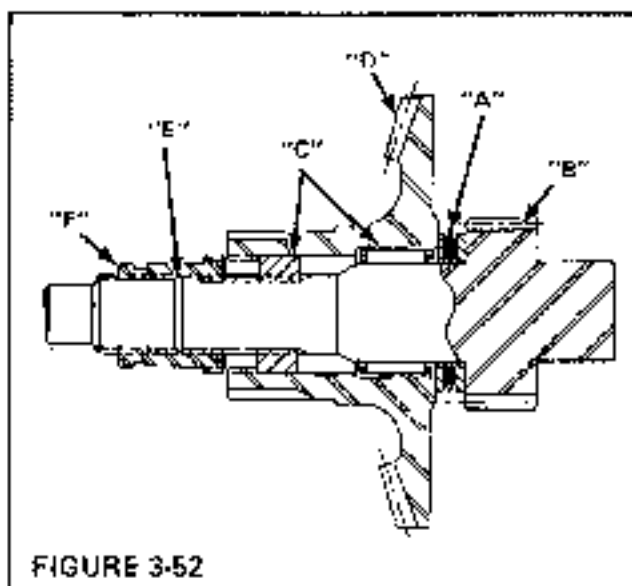
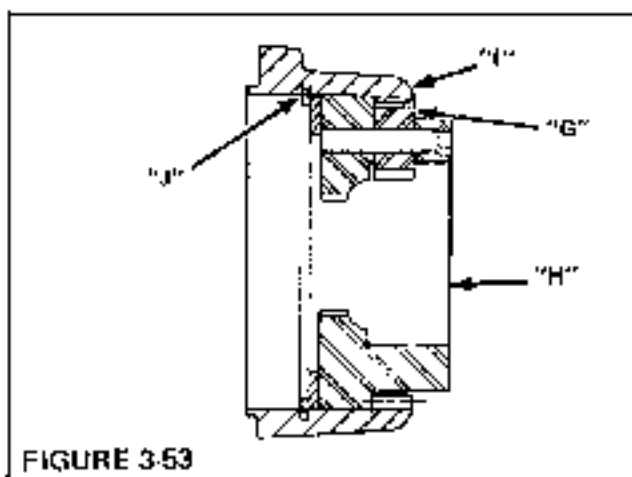

FIGURE 3-52
FIGURE 3-53
1. Slide speed thrust race, thrust bearing and another thrust race (A) Fig. 3-52 onto pinion shaft (B).
2. Place pinion shaft through rotor and needle bearings (C) in bevel gear (D).
3. Carefully place positioning ring (E) in groove of pinion shaft. Be careful of over-stretching the ring.
4. Slide sliding gear (F) over the positioning ring into first detent. The groove for the shifter arm fork must be towards the end of the pinion shaft.
5. Place planetary gears (G) Fig. 3-53 into planetary carrier (H) and secure in place with roll pins. Place the planet carrier assembly into internal ring gear (I). Install the large thrust washer behind the planet carrier and secure the assembly with large retaining ring (J).
6. Install the pinion shaft assembly, Figure 3-52, into the planet gear assembly, Figure 3-53.